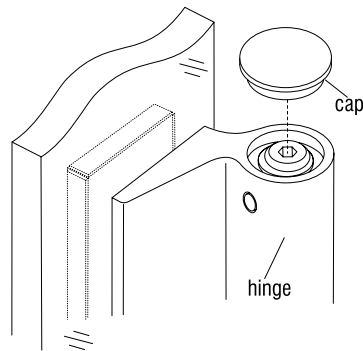

Figure 11
19. With hinge pins set in place, install the caps onto the top of both hinges. Get the caps started in place and lightly tap in with a soft mallet, taking care to not damage the surface (Figure 11).